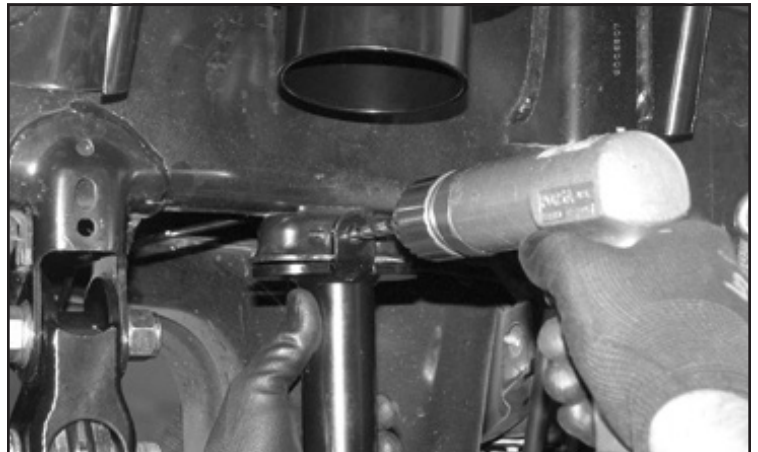

FIGURE 19 - STEP 25
25. Using the outer tab on the bump stop as a drill guide, drill a 5/16" hole all the way through the factory bump stop mount. **SEE FIGURE 19**